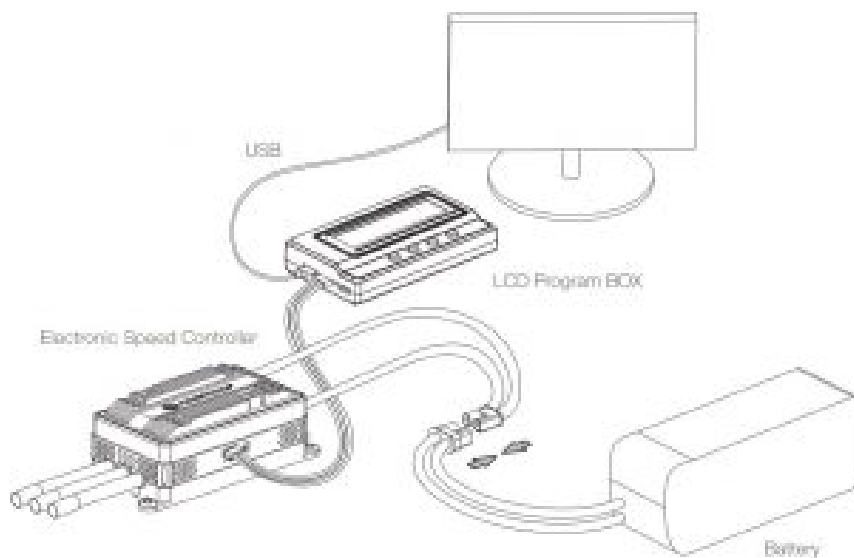

Figure 5
2. Use Hobbywing USB LINK program (download address: <http://www.hobbywing.com/cn/article.php?id=162>) and LCD parameter setting box to connect platinum V4/V4.1 ESC to the computer, and upgrade ESC firmware to the firmware with the suffix of Vbar.(Figure 5).